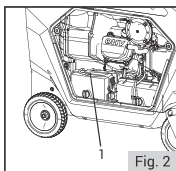

Fig. 2
2. Connect the black cable onto the battery's negative terminal (Fig. 2 - 1).